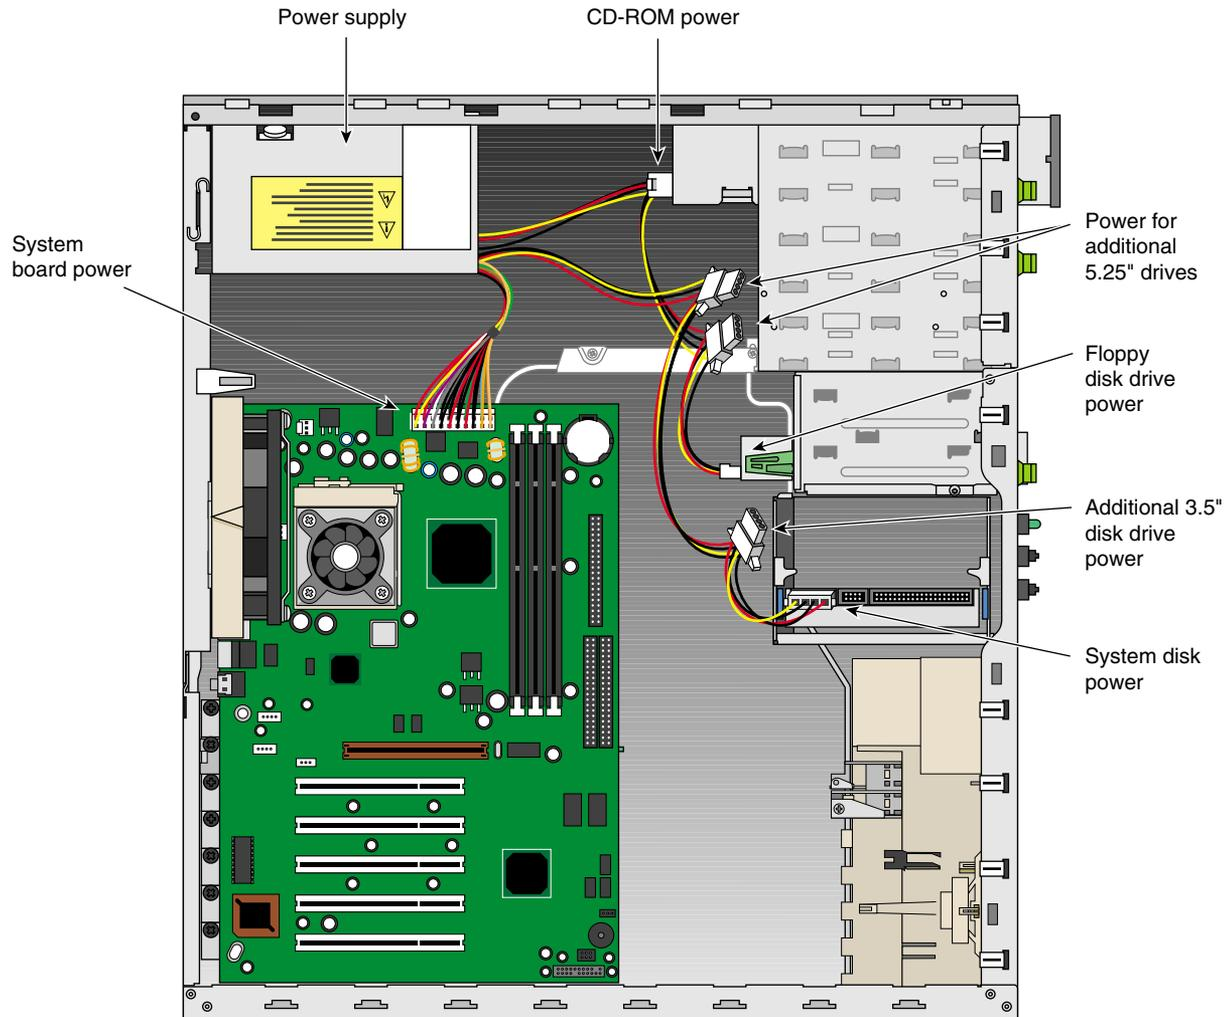

Figure 2-11 Connecting Power Supply Cables
3. Disconnect all the power supply cables from the system board, the 3.5-inch drives and the 5.25-inch drives. See Figure 2-11 on page 31 for the location of the cable connections.
12. Connect the power supply cables to the system board, the hard drive(s), the CD-ROM drive, and to the floppy disk drive. Refer to Figure 2-11 for the location of the power supply cable connections.